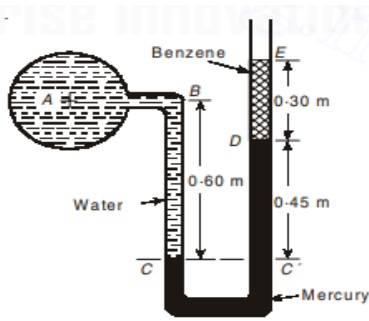

Figure2
- 12** The left leg of a U-tube mercury manometer is connected to a pipe-line conveying water, the level of mercury in the leg being 0.6 m below the center of pipe-line, and the right leg is open to atmosphere is shown in figure2. The level of mercury in the right leg is 0.45 m above that in the left leg and the space above mercury in the right leg contains Benzene (specific gravity 0.88) to a height of 0.3 m. Find the pressure in the pipe. **10Marks L3 C01**